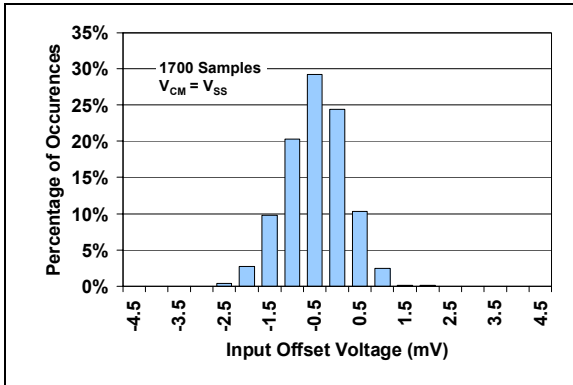

**FIGURE 1-1:** AC and DC Test Circuit for Most Specifications.
**Electrical Characteristics:** Unless otherwise indicated,  $V_{DD} = +1.4V$  to  $+6.0V$ ,  $V_{SS} = GND$ ,  $T_A = +25^\circ C$ ,  $V_{CM} = V_{DD}/2$ ,  $V_{OUT} \approx V_{DD}/2$ ,  $V_L = V_{DD}/2$  and  $R_L = 1 M\Omega$  to  $V_L$ . (Refer to Figure 1-1).
**Electrical Characteristics:** Unless otherwise indicated,  $T_A = +25^\circ\text{C}$ ,  $V_{DD} = +1.4\text{V}$  to  $+6.0\text{V}$ ,  $V_{SS} = \text{GND}$ ,  $V_{CM} = V_{DD}/2$ ,  $V_{OUT} \approx V_{DD}/2$ ,  $V_L = V_{DD}/2$ ,  $R_L = 1\text{ M}\Omega$  to  $V_L$  and  $C_L = 60\text{ pF}$ . (Refer to Figure 1-1).
The circuit used for most DC and AC tests is shown in Figure 1-1. This circuit can independently set  $V_{CM}$  and  $V_{OUT}$  (see Equation 1-1). Note that  $V_{CM}$  is not the circuit's Common Mode voltage ( $(V_P + V_M)/2$ ), and that  $V_{OST}$  includes  $V_{OS}$  plus the effects (on the input offset error,  $V_{OST}$ ) of the temperature, CMRR, PSRR and  $A_{OL}$ .